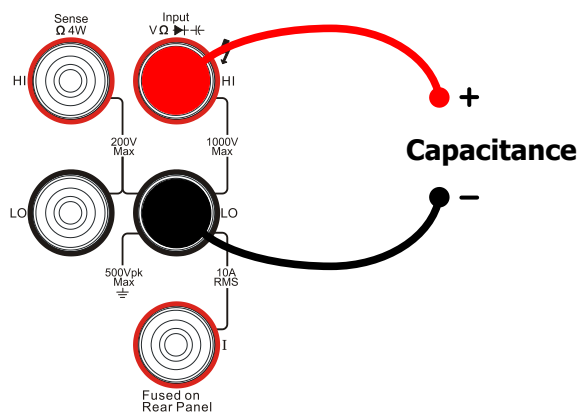

Figure 2-23 Sketch map for connecting
1. Connecting red lead to both Terminal Input-HI and anode of the capacitance and black lead to both Terminal Input-LO and cathode of the capacitance as shown in Figure 2-23.